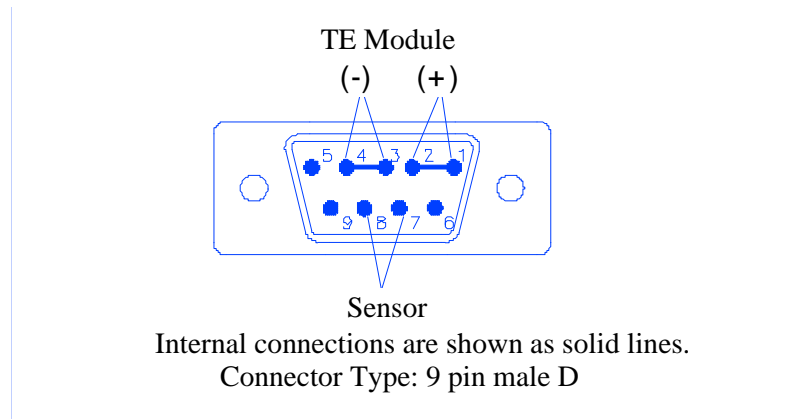

Figure 2.3 LDM-4412 TE Module Cable Pinouts
- 8 Connect the leads of the thermistor and laser diode according to Figure 2.3, paying strict attention to the laser diode polarity.